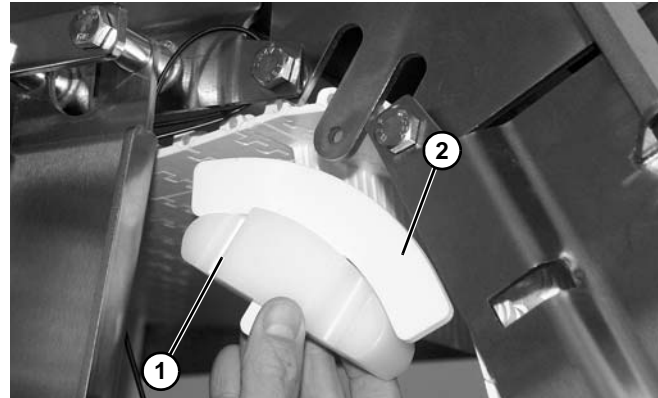
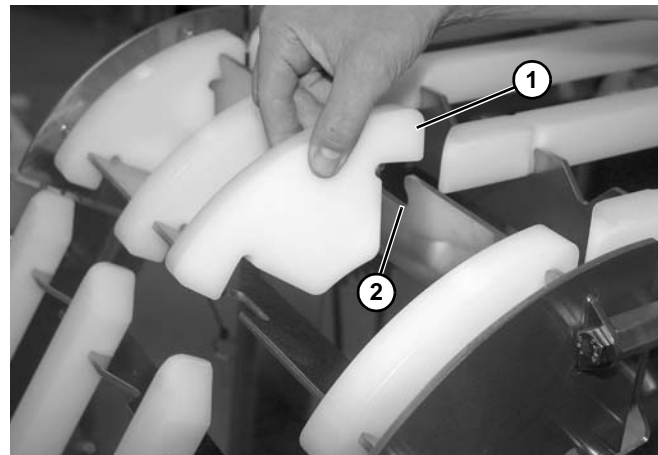

Figure 46
Figure 47
9. Upper Knuckle (LPZ Conveyors) (If Equipped): Remove pull pin, return shoe (**Figure 46, item 1**), and knuckle guide (**Figure 46, item 2**) on each side of conveyor on upper knuckle plate. Place in COP tank. Remove the upper knuckle wear bars (**Figure 47, item 1**) from notches (**Figure 47, item 2**) on bracket of upper knuckle. Place wear bars in COP tank.